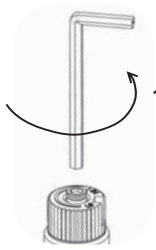

Fig.2
- 10) Insert a 5/32" or 4mm Allen wrench into the hexagonal key-way of the screw (Fig. 2), rotate it counter-clockwise until it is free and extract it.